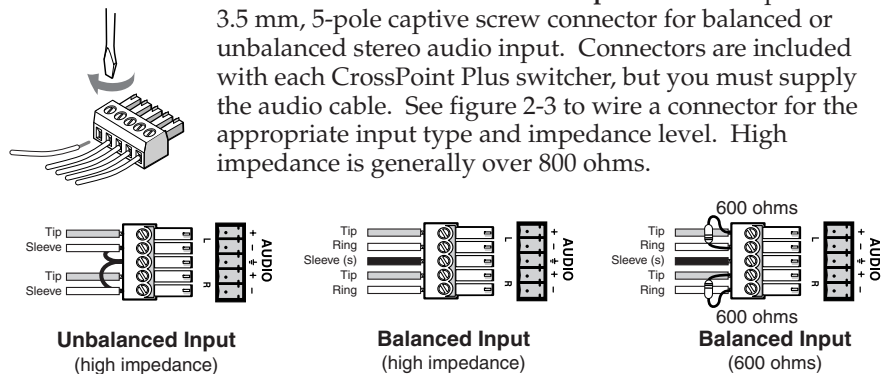
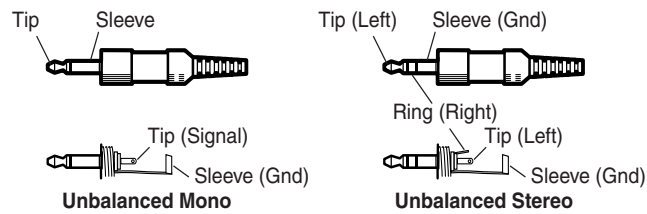
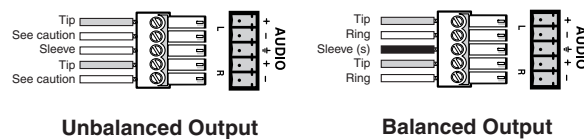

Figure 2-3 — Captive screw connector wiring for inputs
Figure 2-4 — Phono audio connectors
Figure 2-5 — Captive screw connector wiring for audio output
- ④ **Connections for balanced and unbalanced audio inputs** — Each input has a 3.5 mm, 5-pole captive screw connector for balanced or unbalanced stereo audio input. Connectors are included with each CrossPoint Plus switcher, but you must supply the audio cable. See figure 2-3 to wire a connector for the appropriate input type and impedance level. High impedance is generally over 800 ohms.
NOTE When making connections for the CrossPoint Plus Series Switcher from existing audio cables, see figure 2-4. A mono audio connector consists of the tip and sleeve. A stereo audio connector consists of the tip, ring and sleeve. The ring, tip, and sleeve wires are also shown on the captive screw audio connector diagrams, figure 2-3 and figure 2-5.
- ⑤ **Connections for audio outputs** — These 3.5 mm, 5-pole captive screw connectors output the selected unamplified, line level audio. Connect audio devices, such as an audio amplifier or powered speakers. See figure 2-5 to properly wire an output connector.